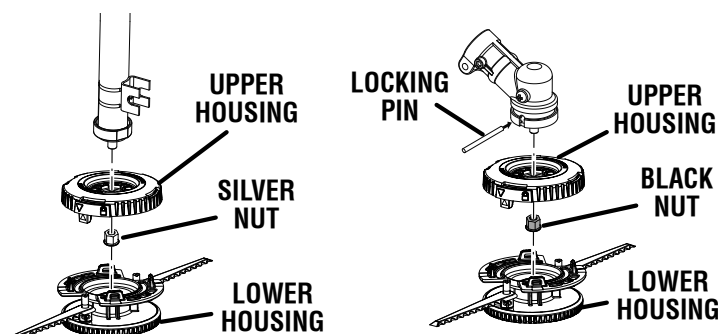

Fig. 6
- Insert nut (M8), with flange facing down, into the hex pocket in the upper housing then twist upper housing onto the attachment (see figure 6).